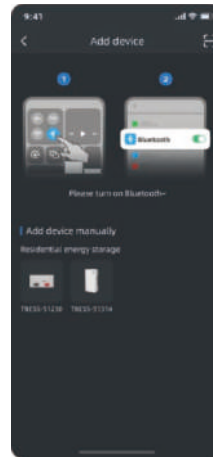

Figure 2
- 2) Figure 2: Please confirm that the Bluetooth on your phone is turned on.